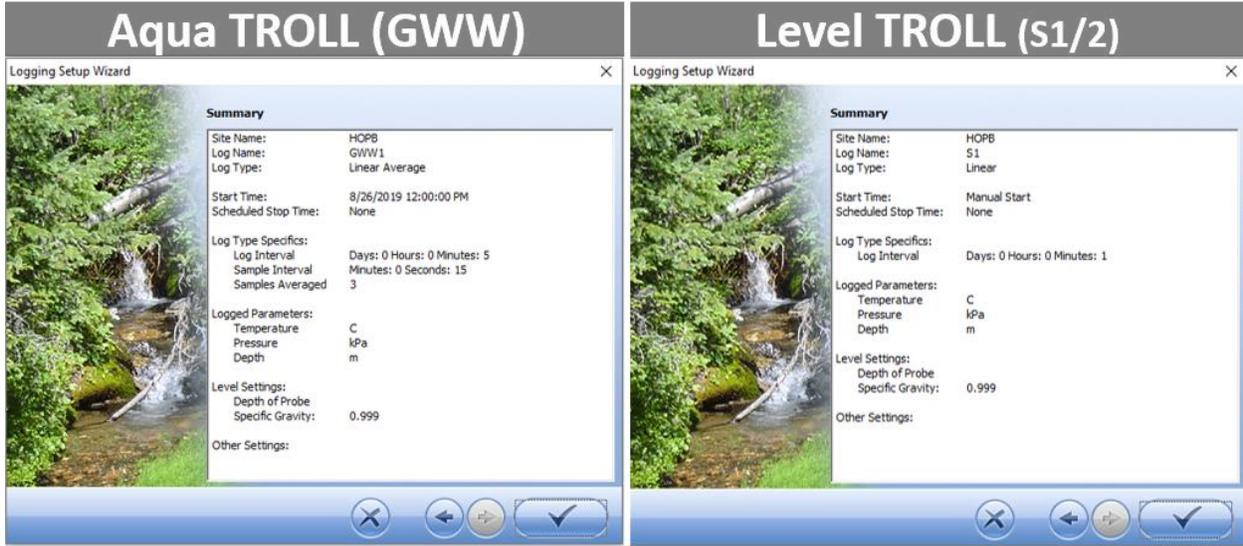

Figure 18. Logging Configuration Summary Examples
10. Confirm the logging configuration settings by reviewing the final Summary. Figure 18 provides an example summary for an Aqua TROLL in a GWW and a Level TROLL at a stream site. Click the “✓” to continue.